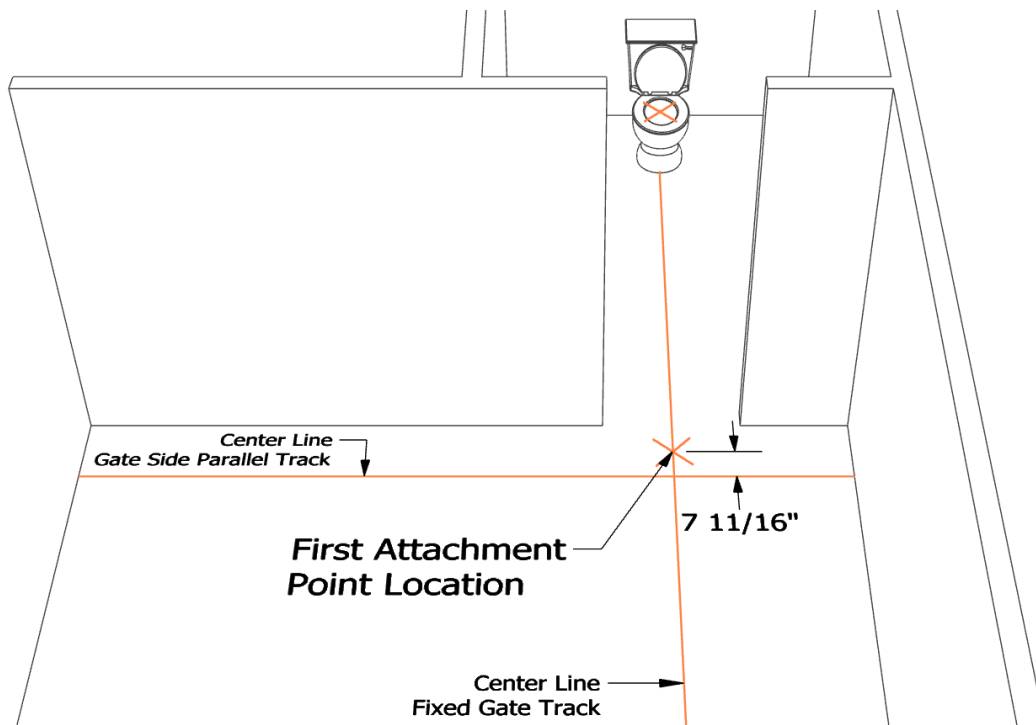

Figure 75: Point 7 11/16" Along the Fixed Gate Track Line
- **For a TGS 1000 lbs capacity** (used for any ceiling lift greater than 625 lbs capacity), from the intersection of the two lines you just created, mark a point 7 11/16" over along the fixed gate track line (Figure 75).